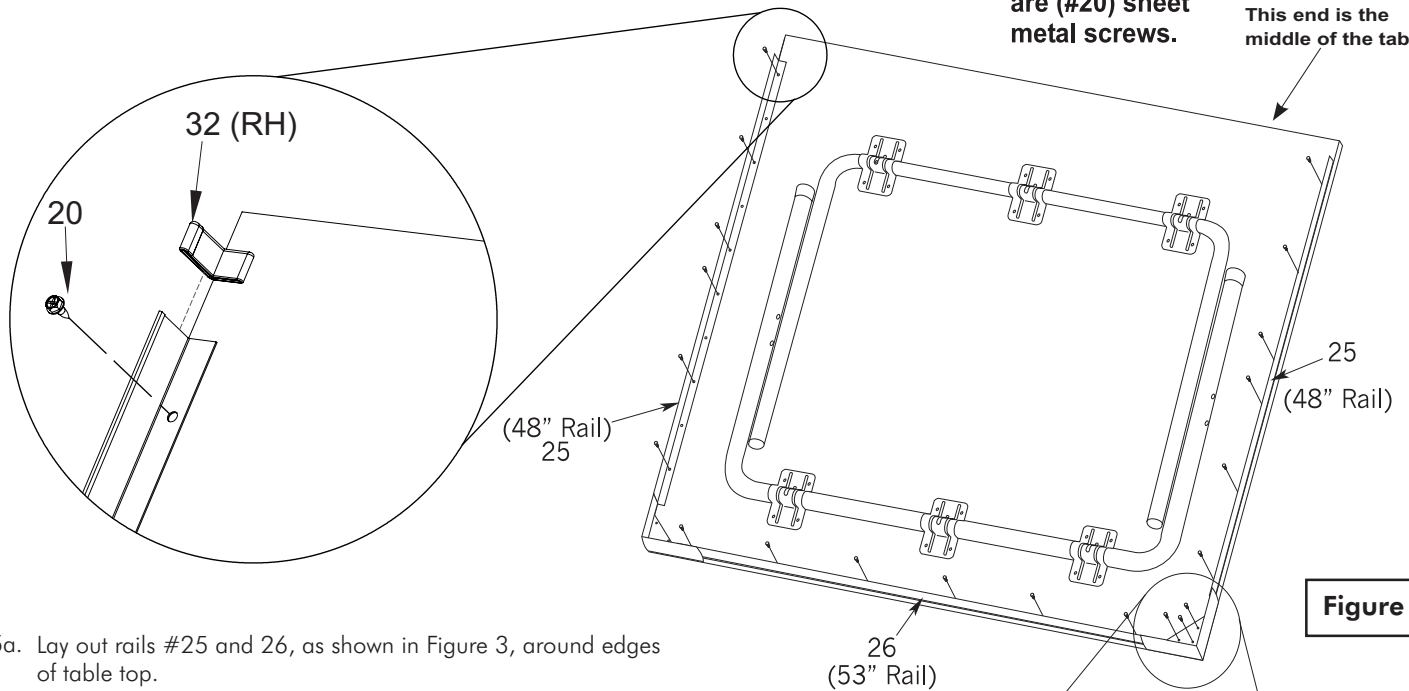

Figure 3
- 5a. Lay out rails #25 and 26, as shown in Figure 3, around edges of table top.
6. Line up holes in rails with indentations in top and secure using eighteen screws #20. See Figure 3.